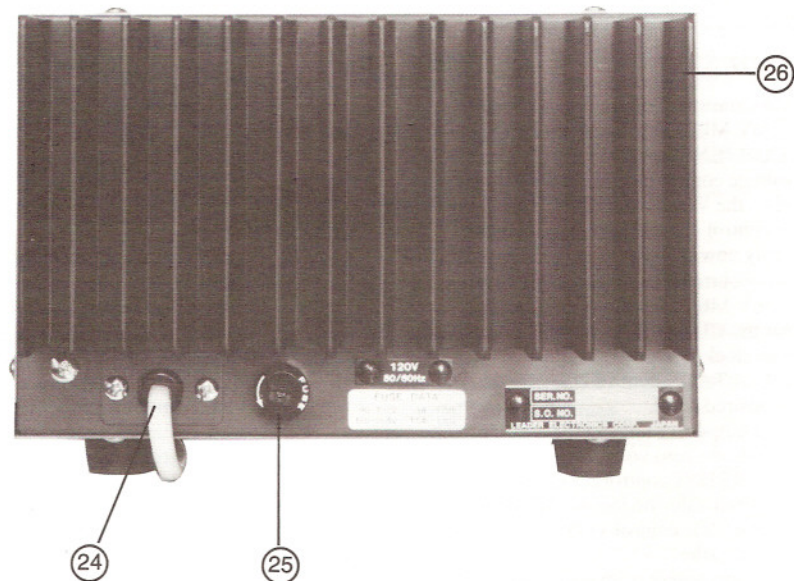

Figure 4-2. Rear Panel
- ⑱ VOLTAGE +6V control This sets the output voltage for the +6V source.
- ⑲ Voltmeter Gives voltage indication in the +25V and +6V ranges, selected by one of the METER (3), (4), and (5) buttons.
- ⑳ Voltmeter Zero adjust
- ㉓ Ammeter Gives current indication in the  $\pm 25V$  and +6V ranges, selected by one of the METER mode (3), (4), and (5) buttons.
**Rear Panel.** Refer to to Figure 4-2.